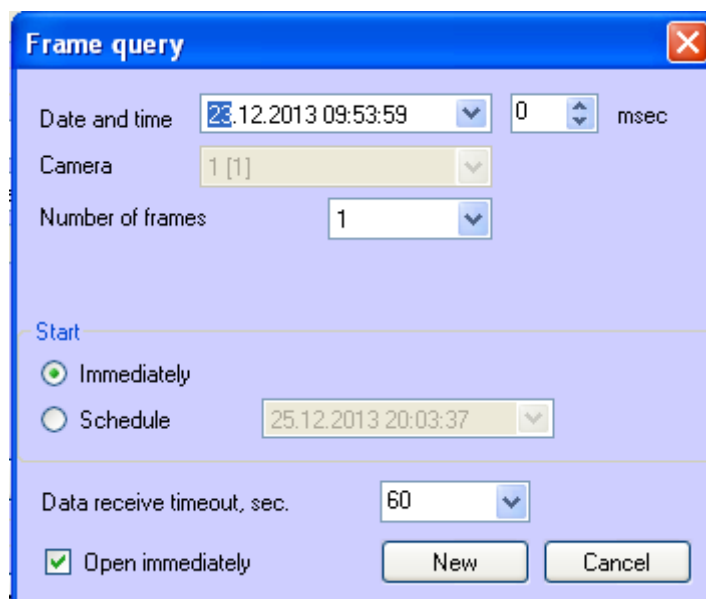

Fig. 5.4—1 Frame query
3. If **Frame query** item is selected, the **Frame query** dialog box appears (Fig. 5.4—1). You can also call this dialog box by clicking **Frames** button in the **Query** group.